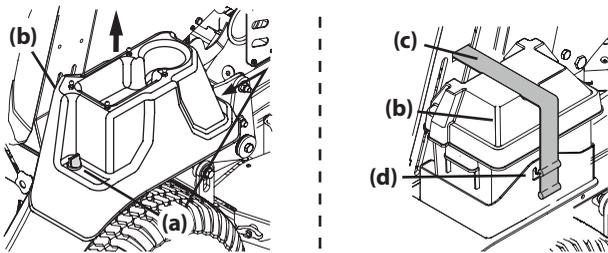

Figure 4
- Mowers with 48, 54 or 60 Inch Decks - Remove the two thumb screws (a) securing the battery cover (b) to the right fender. Lift up to remove the battery cover. See Figure 4.
- Mowers with 36 Inch Decks - Unhook the rubber strap (c) securing the battery cover (b) to the battery tray (d). Lift up to remove the battery cover (Figure 4).